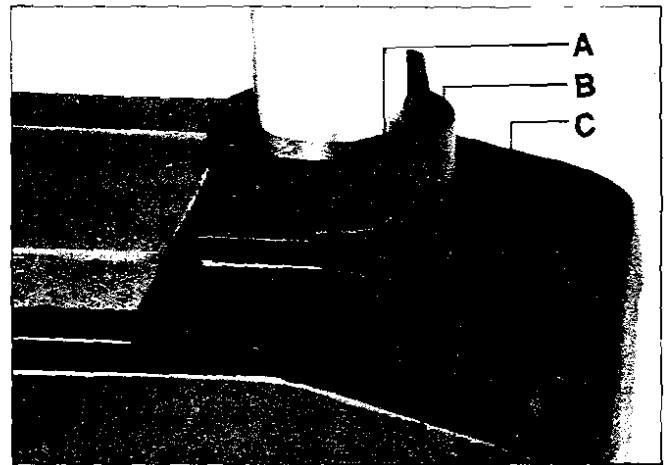

Fig. 4
2. Loosen two set screws (A, Fig. 4) on column bearing collar (B). **Caution:** Do not loosen two screws with lock nuts on them (C).
3. Raise rack (B, Fig. 4) to desired level by turning table handle (C).
4. Tighten two set screws (A, Fig. 4) to keep rack in position. Now table can be raised to the desired position.